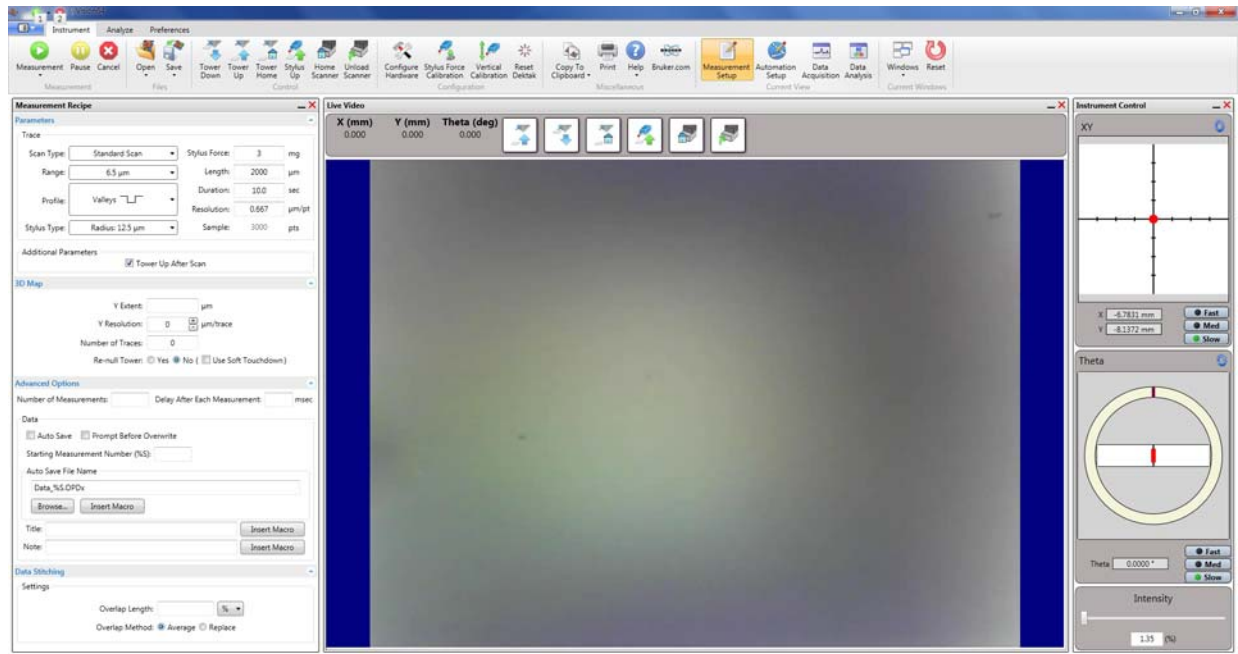

Figure 3-4: Vision64 Instrument Tab, Including the Live Video Display
- The Vision64 Welcome screen appears, followed by the Vision64 **Instrument** tab, which includes the DektakXT Live Video Display (see Figure 3-4).
IMPORTANT SAFETY INFORMATION! The DektakXT system is equipped with a red EMERGENCY OFF button located on the EMO Box connected to the back of the profiler (see Figure 3-4). You may place this box in any convenient and readily accessible location. Pressing the EMERGENCY OFF button immediately shuts off power to all system components, excluding the computer, monitor, and power supply adapter. The 24 VDC control circuit in the EMO Box also remains energized. After you power down the system via the EMO box, you must exit Vision64, shut down the computer, and turn off the monitor as described below.